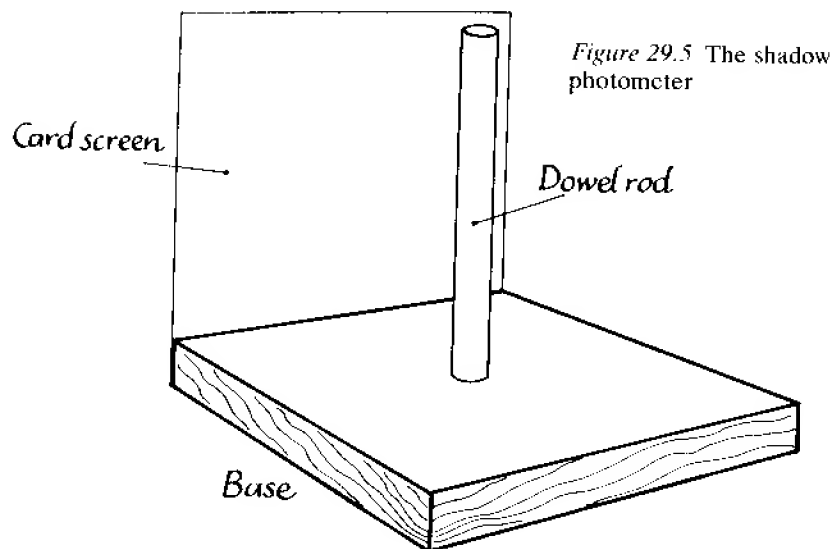

Figure 29.5 The shadow photometer
- Pin a 100 mm square of thin, white card to one edge of the block to act as a screen (see Figure 29.5).